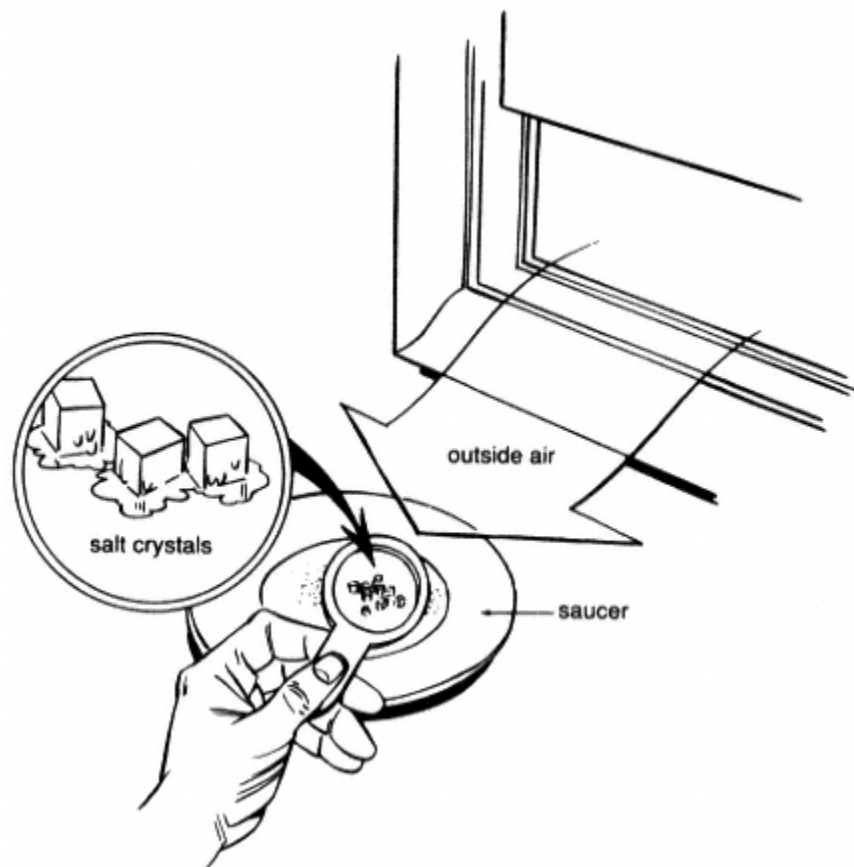

Figure 2.2
2. Sodium chloride (table salt) is deliquescent. Use this chemical to test the humidity of the air by placing 1 tablespoon (15 ml) of salt on a saucer near an open window so that the crystals are exposed to the outside air (see Figure 2.2). For two weeks, use a magnifying lens to